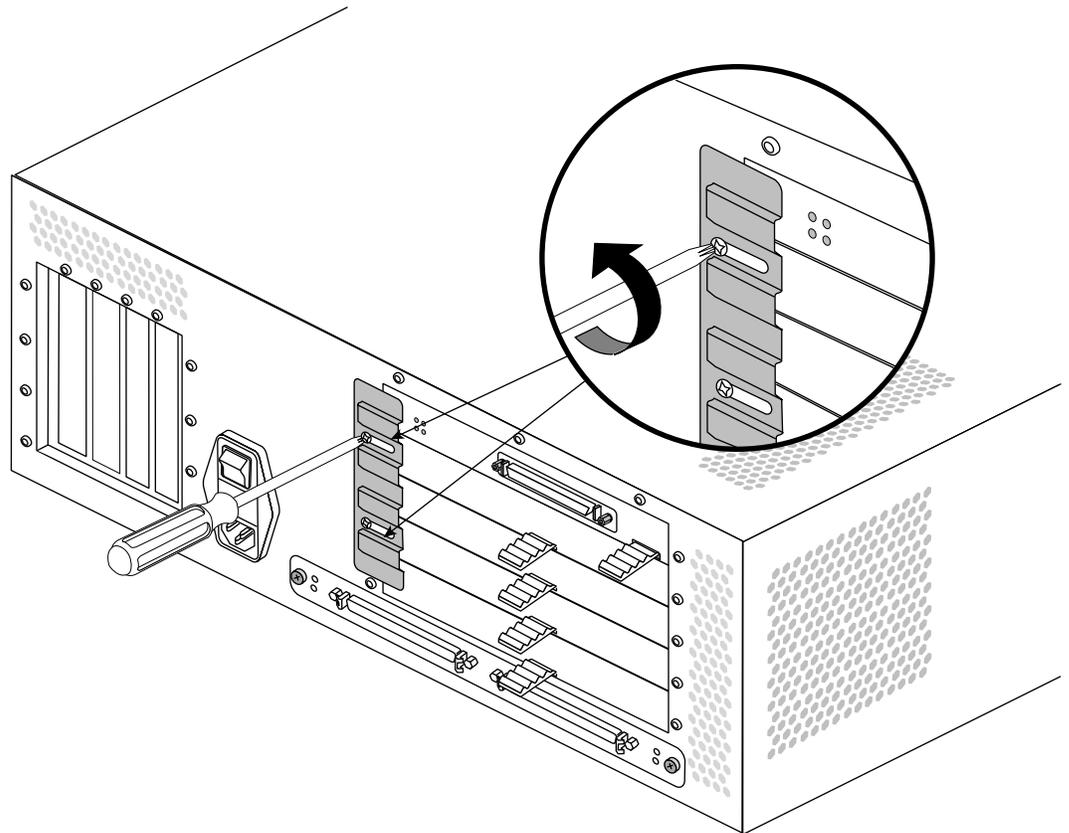

Figure 2-20 Loosening the XIO Board Retaining Plate
- Use a #2 Phillips screwdriver to loosen the screws at each end of the plate, as shown in Figure 2-20.